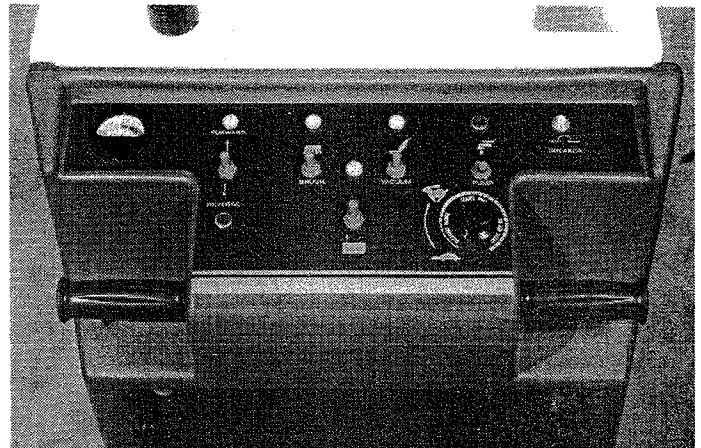

FIG. 4d
4. Move vacuum switch to the "ON" position. (See Figure 4d.)